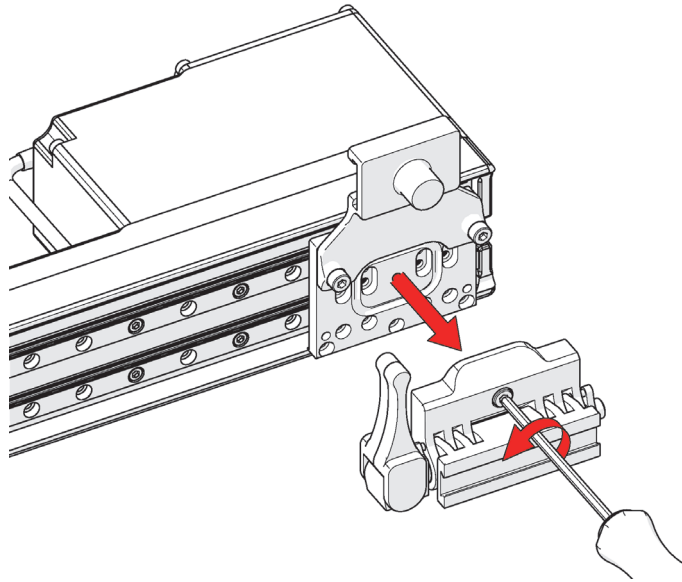

Figure 2-100 Remove pivot nose
2. Using the supplied 3 mm hex driver, remove the raster arm pivot nose (female) from the raster arm (see Figure 2-100 on page 123).